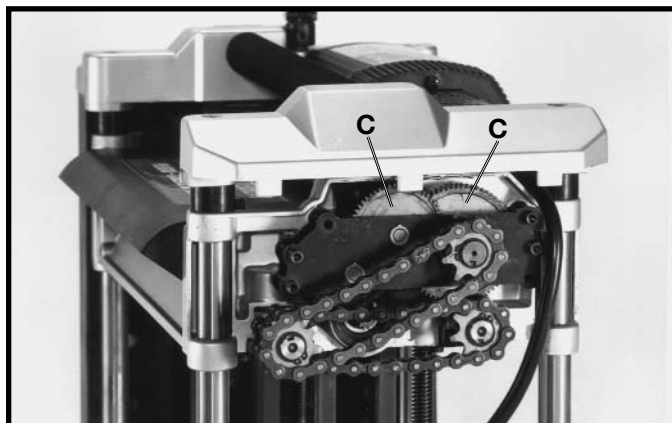

Fig. 42
3. Place extreme pressure lithium grease on the teeth of gears (C) Fig. 42, and replace the side cover.